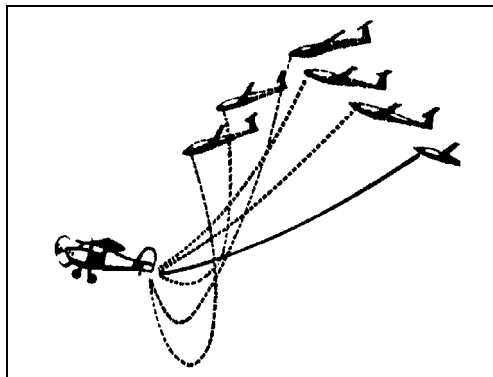

Figure 2-4-5 Slack Rope Formation
- a. Climbing the glider above the normal tow position and then attempting to descend back to the proper position is a manoeuvre often flown by student pilots in the early stages of training (Figure 2-4-5). The climb, followed by the sudden descent, provides the glider with excess speed and results in a slack tow rope.